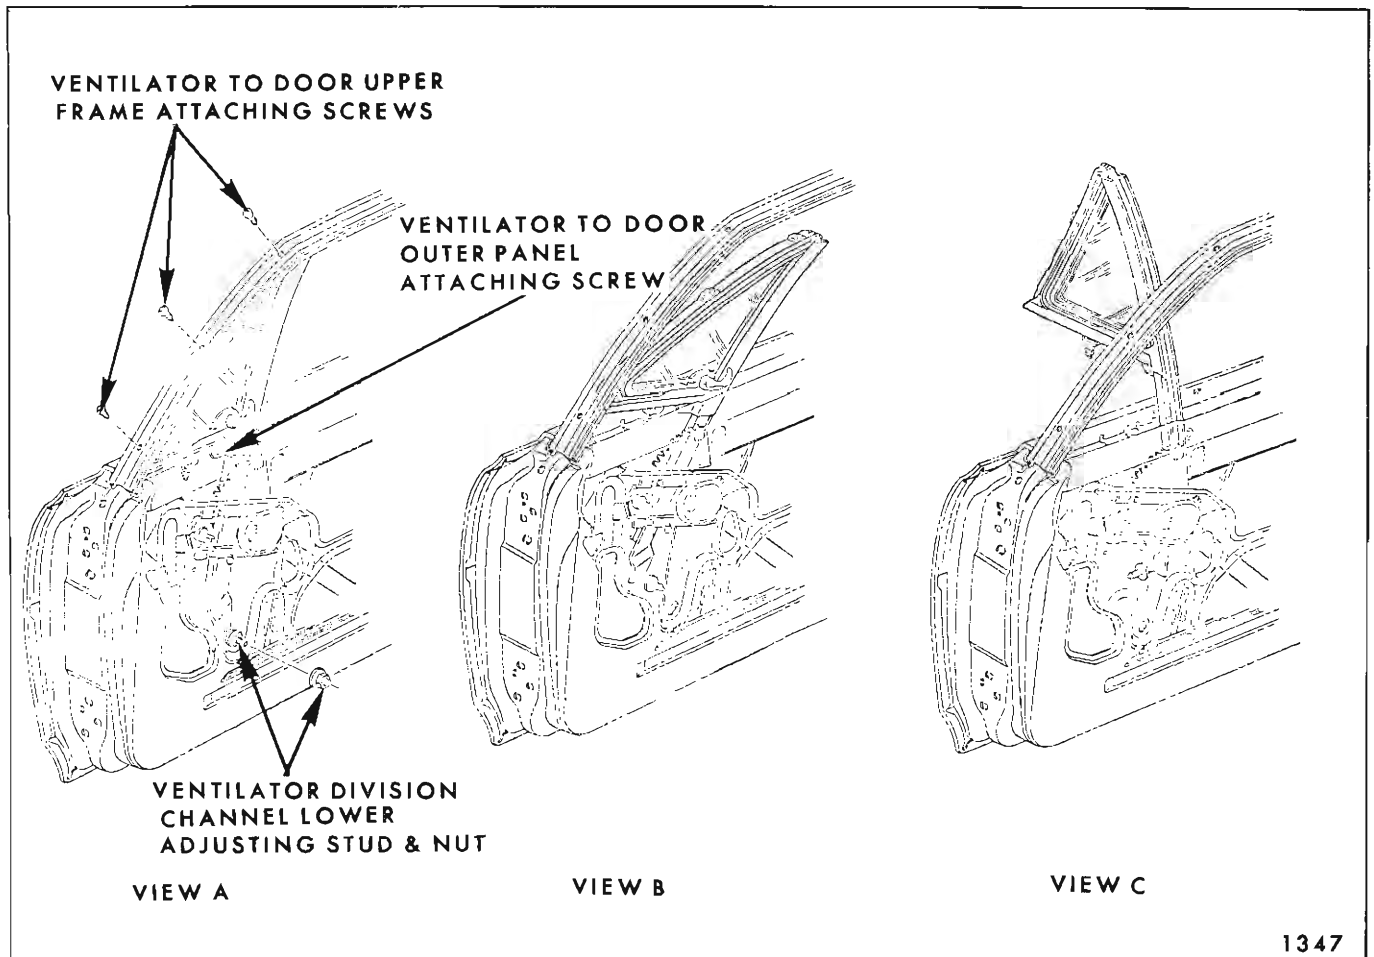

Fig. 2D28—Front Door Ventilator Assembly Removal
2. Remove two attaching bolts and slide cam out of engagement with regulator balance arm roller and remove cam from door. (See Fig. 2D22).